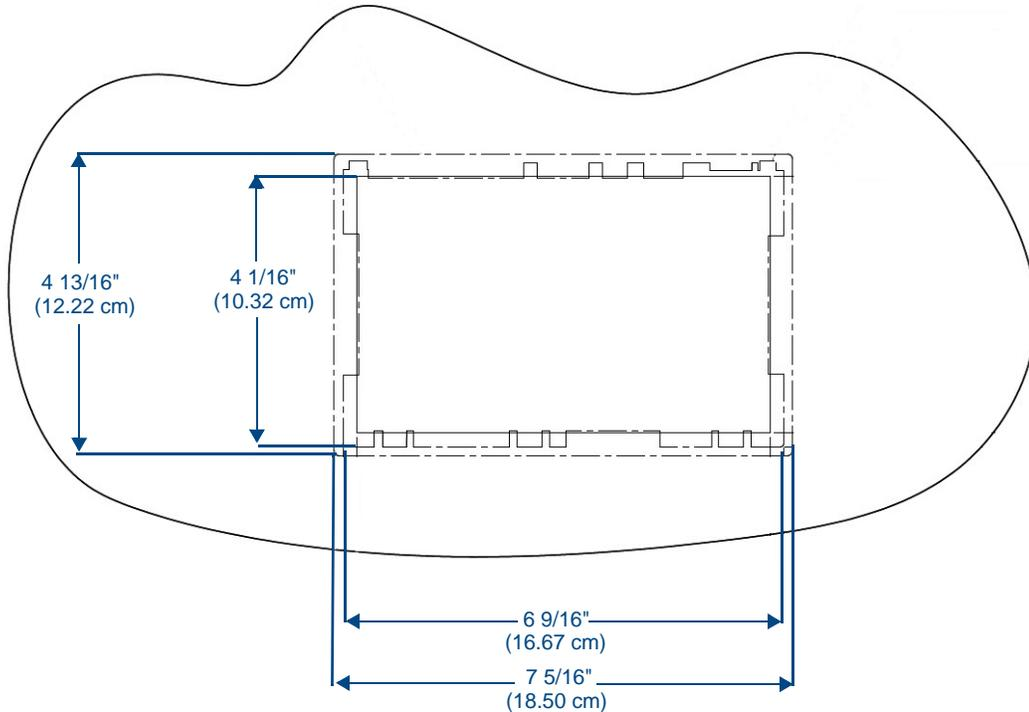

FIG. 16 MXD-701 Installation Template
2. For best results, use the MXD-701 Installation Template (**68-5968-04**) to ensure proper placement (FIG. 16). The template is marked on one side with directions for both landscape and portrait installations to ensure that the touch panel and back box are properly aligned.